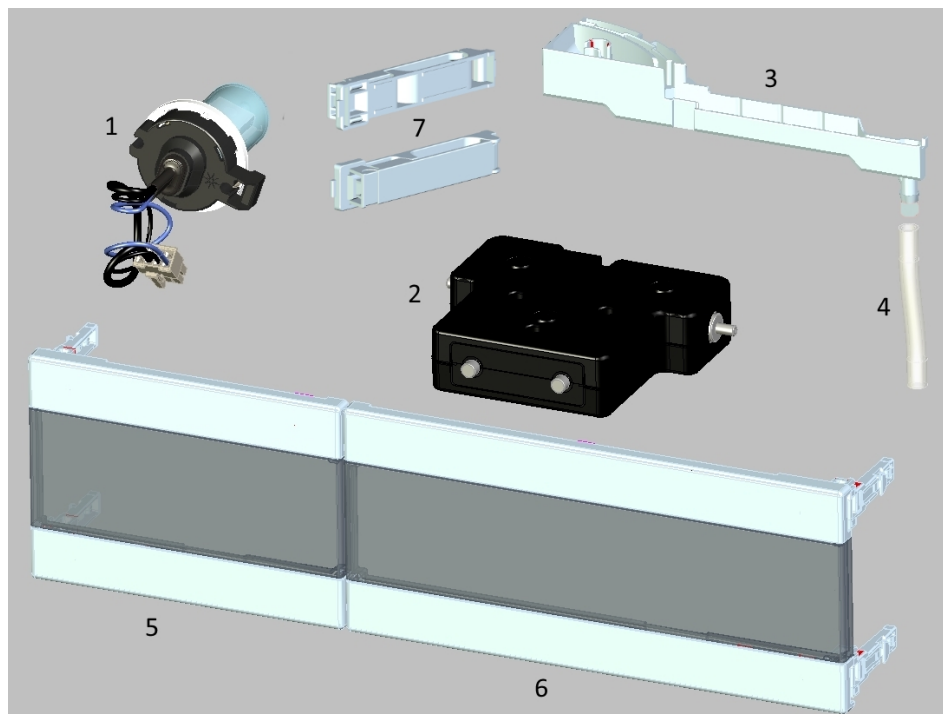

Figure 51 Overview of maintenance parts
5063-6527	Tubing, Silicon Rubber, 1.2 m, ID/OD 6/9 mm see item 4 in Figure 51 on page 173
5043-1013	Tubing Clip see item 7 in Figure 51 on page 173